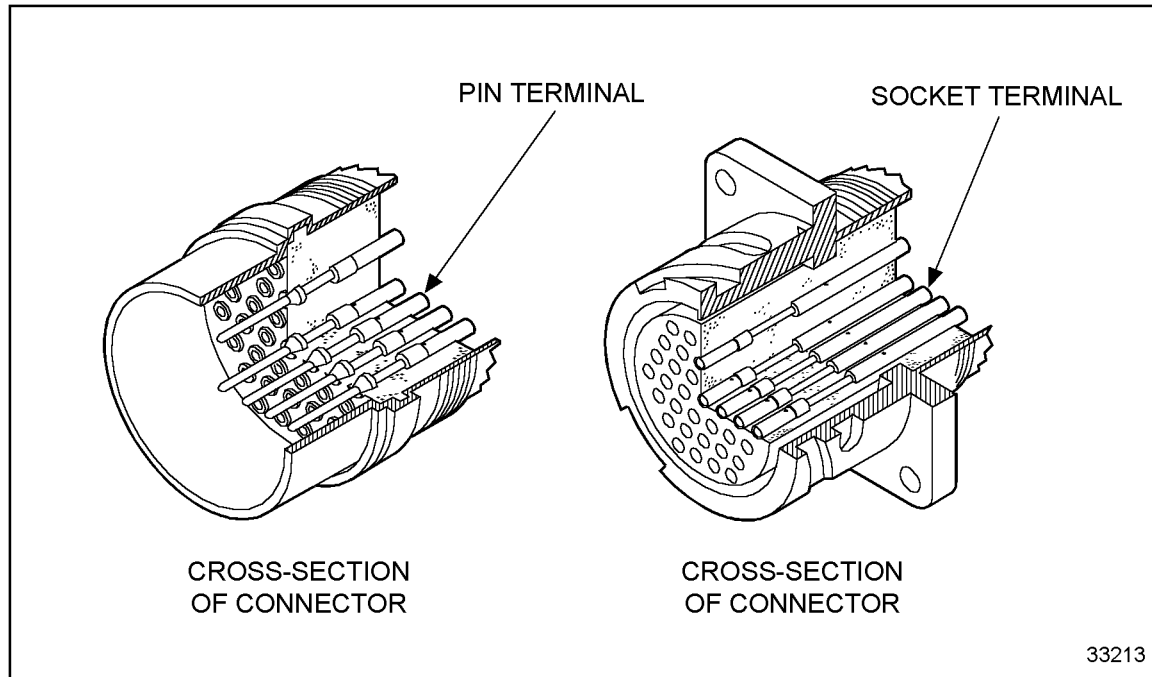

Figure 3-58 Connector Cross-section With Pin and Socket Terminals
3. On the mating face of the connector, insert the tool over the pin terminal or into the socket terminal until the tool stops (see Figure 3-58).